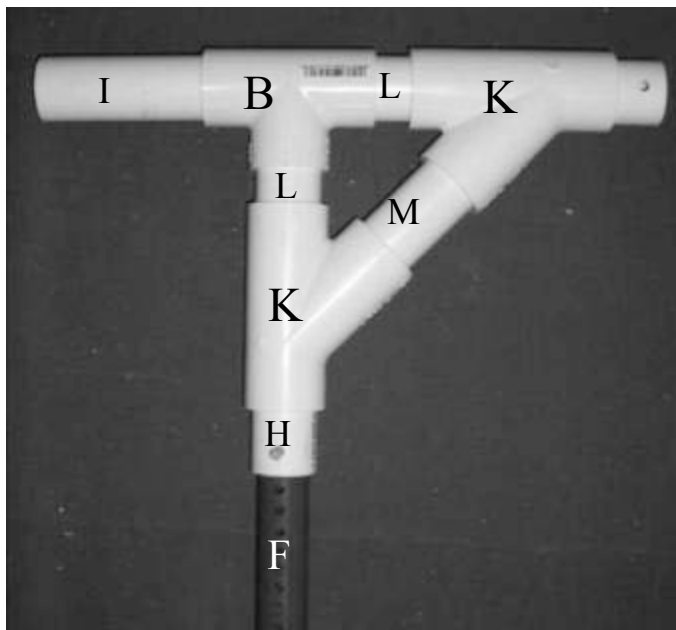

FIGURE 16 – Step 12 – Joining Side Frame to Rear Frame.
Step 12. Use a clevis pin or dowel rod to align the drilled hole in Part H of the side frame structure created in Step 8 with Part F as shown in Figure 16.